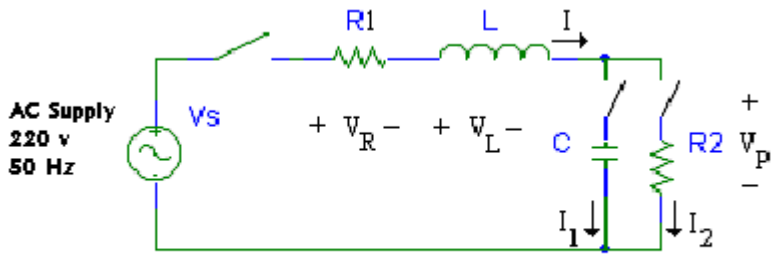

Figure 2 :
4. Construct the circuit of Figure 2.